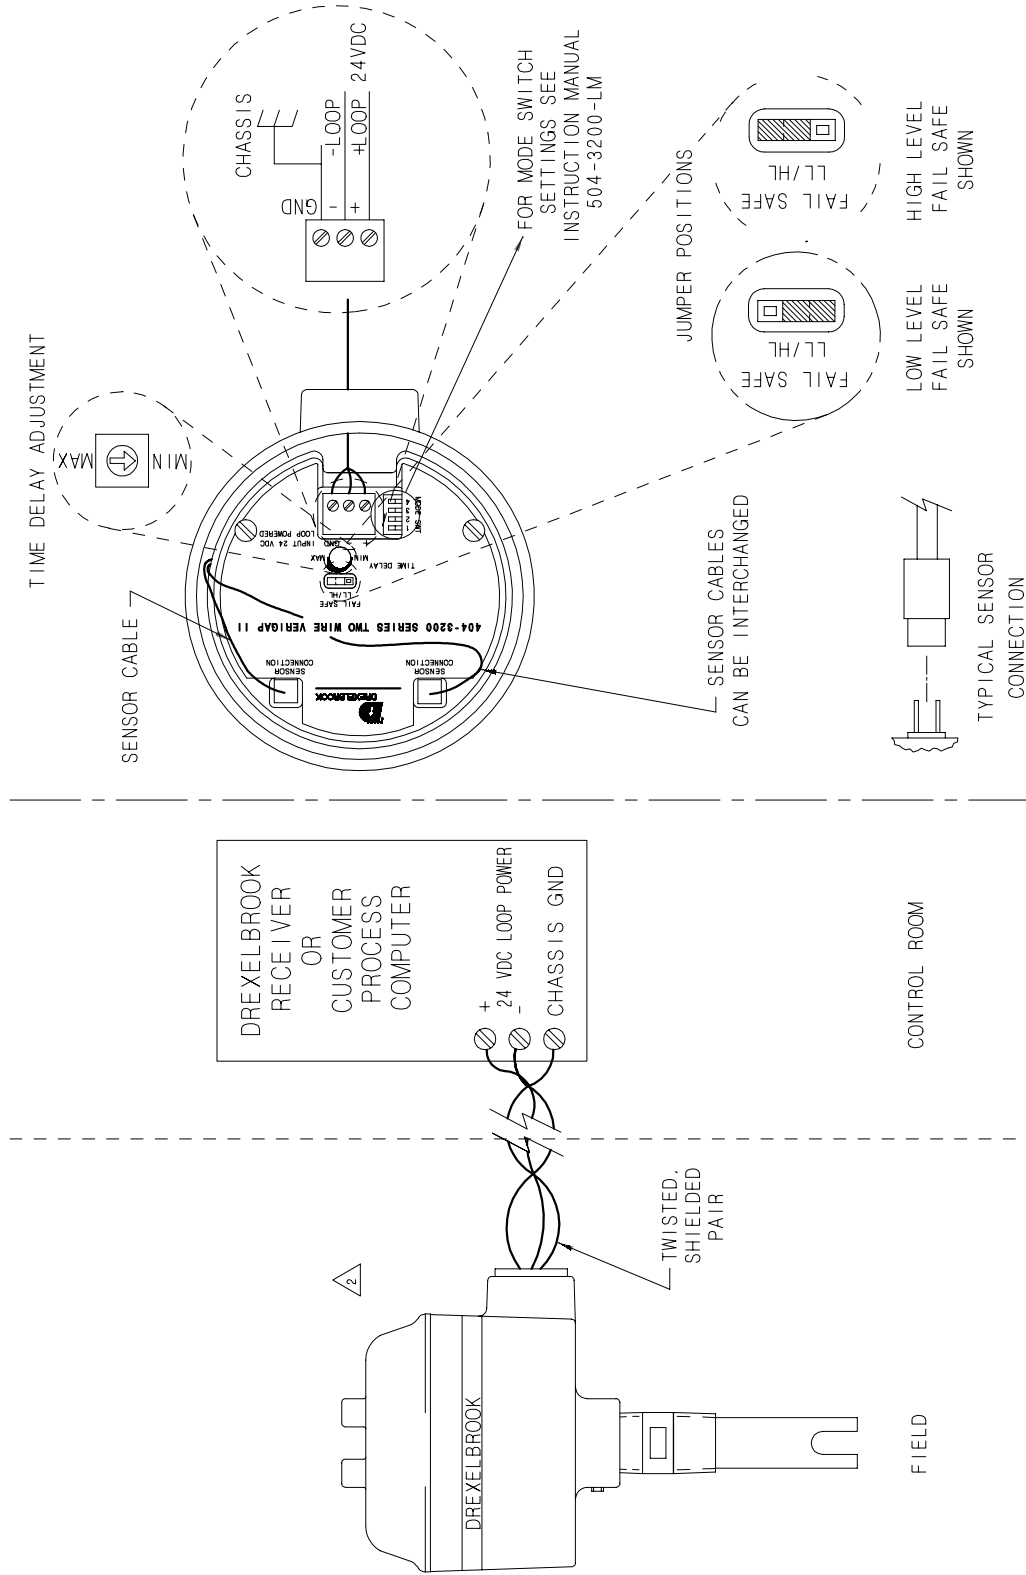
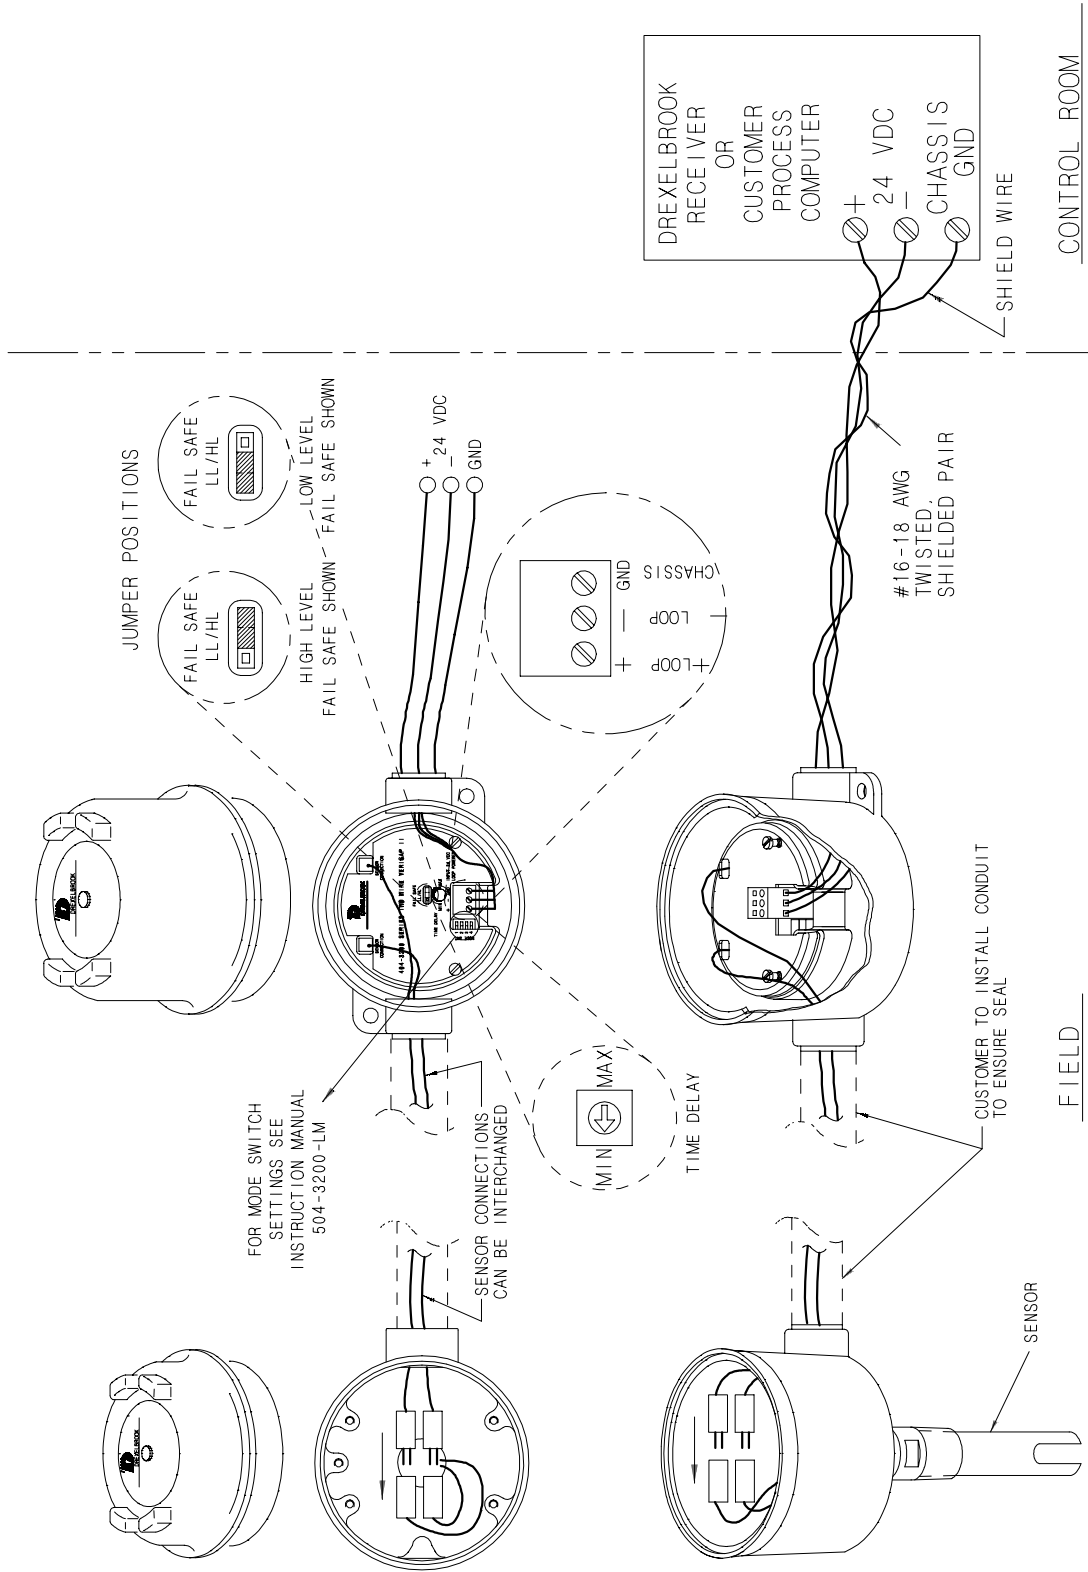

Figure 2-4
Figure 2-5
3. Make all electrical connections to the switch per the wiring diagram shown in Figure 2-4 (Integral) or Figure 2-5 (Remote). Use 14-gauge or smaller wiring (stranded wiring is preferred). All connections are made on the terminal strip.